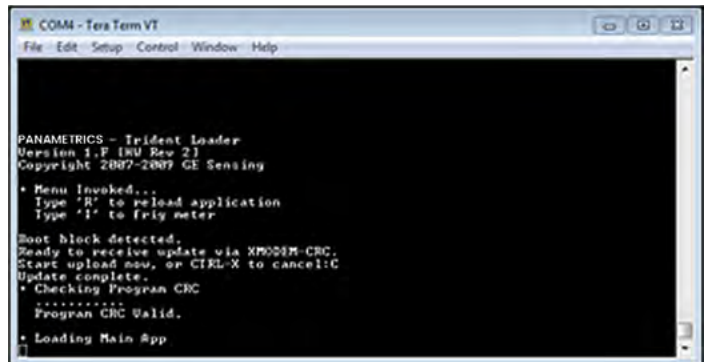

Figure 86: Update complete message in Tera Term
4. After the file transfer is complete, the *Tera Term* terminal window will appear as in *Figure 86* below, and the meter will start up.